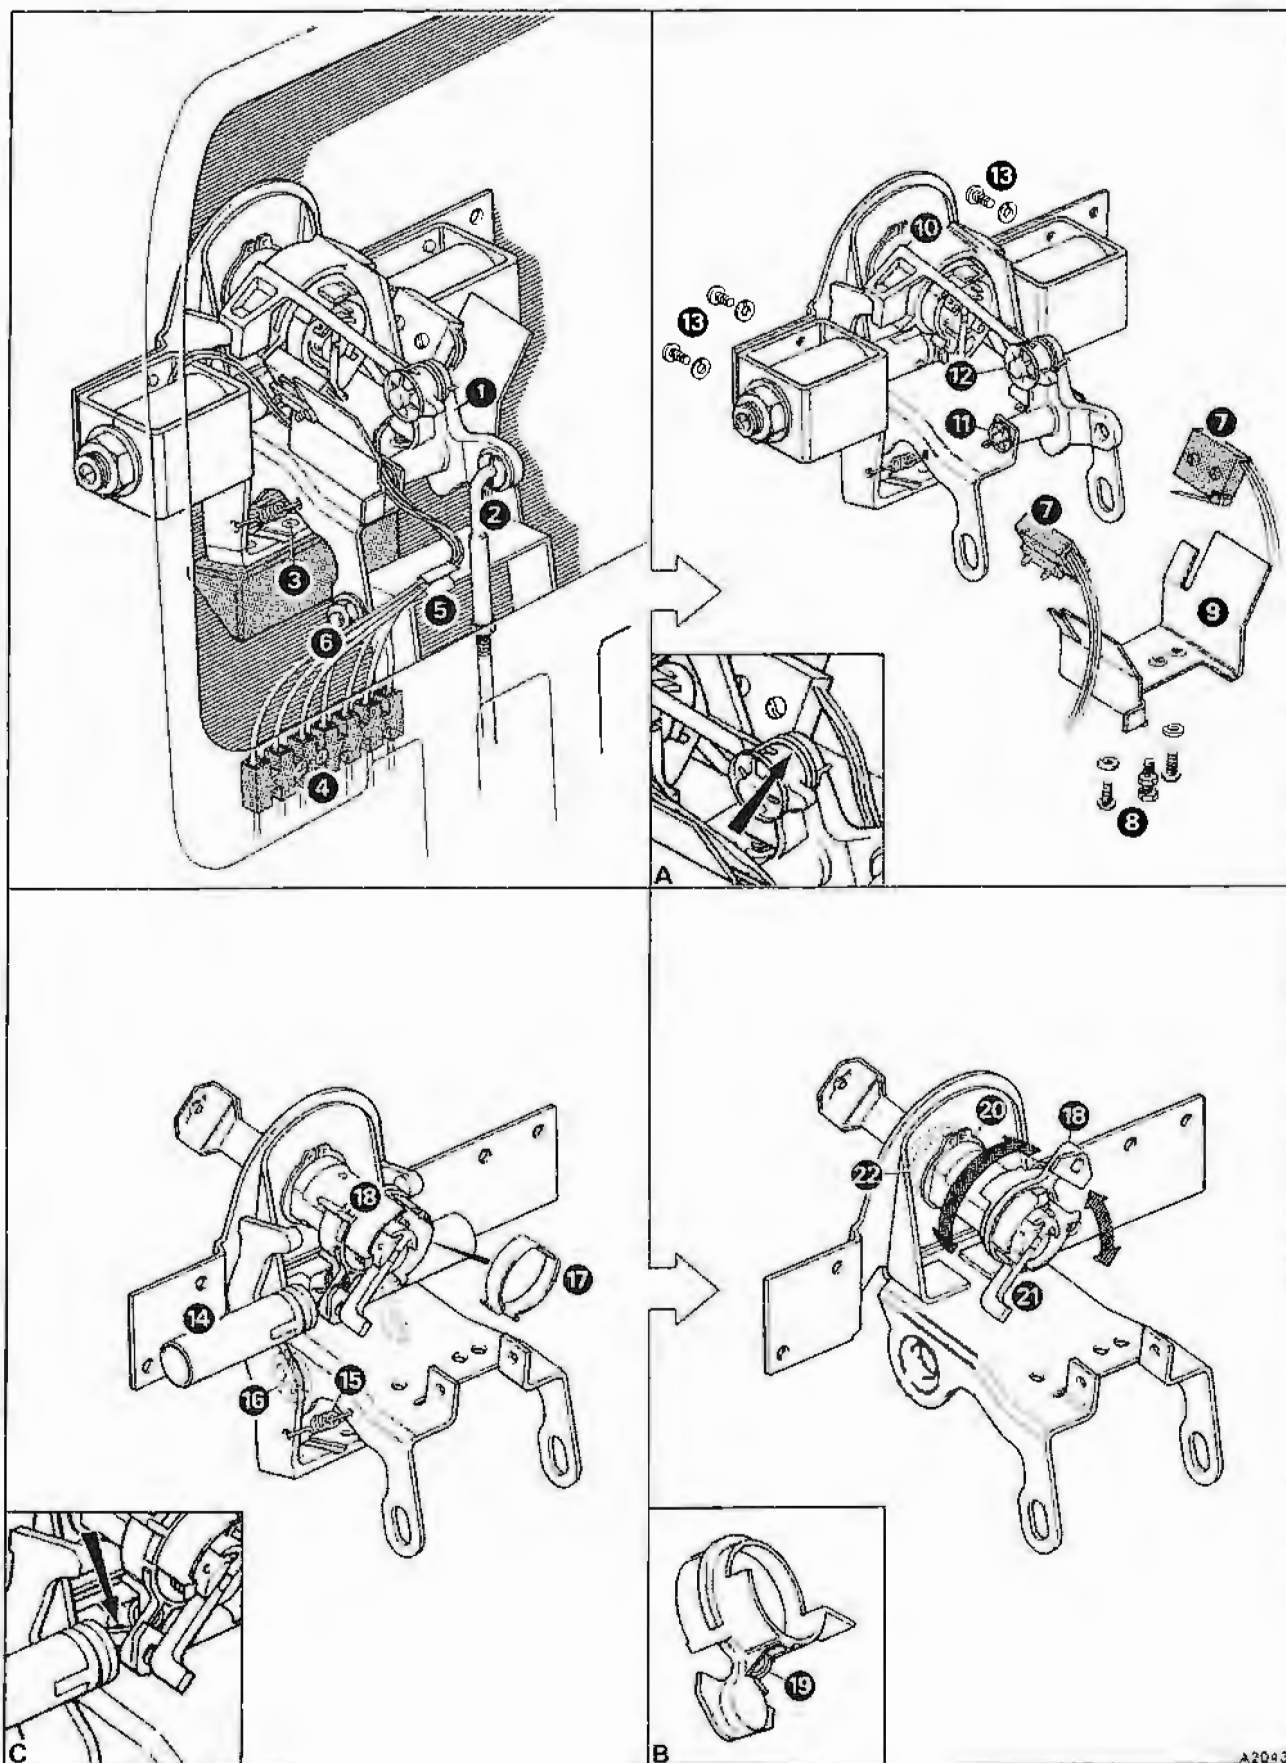

Fig. S7-6 Lock mechanism (incorporating a plastic release lever)
Cars fitted with the lock mechanism incorporating a plastic release lever (see fig. S7-6, item 1).
3. Disconnect the latch mechanism control rod (see fig. S7-6, item 2) from the release lever on the lock mechanism.
4. Using a countersunk drill, carefully remove the pop rivet heads (item 3) securing the luggage compartment lid release handle. Take care not to drill through the handle or irreparable damage to the release trigger will result.
5. Remove the screws securing the terminal block (item 4), then disconnect the solenoid and micro-switch leads. Note the colour and position of the leads to ensure correct assembly.
6. Release the electrical leads from the clip (item 5).
7. Remove the two bolts, nuts, and washers (item 6) securing the lock mechanism. Then, carefully withdraw the mechanism from the luggage compartment lid.
8. Loosen the two screws securing each micro-switch (item 7), then withdraw the switches from the shield lugs.
9. Loosen the lock-nut and remove the adjustable stop (item 8).
10. Remove the screws and spring washers securing the shield (item 9). Lift the interrupter (item 10) to allow the shield to be removed, taking care not to overstress the interrupter return spring.
11. If necessary, remove the interrupter/release lever assembly by removing one of the Starlock washers (item 11) and withdrawing the pivot pin. The interrupter can be separated from the release lever by removing the Starlock washer (item 12). Ensure that the interrupter
1. To ensure the correct operation of the lock mechanism, new private lock sealing rings (item 22) and Starlock washers (if removed) should be fitted on assembly.
4. To fit the saddle/toggle spring assembly (item 18) proceed as follows.